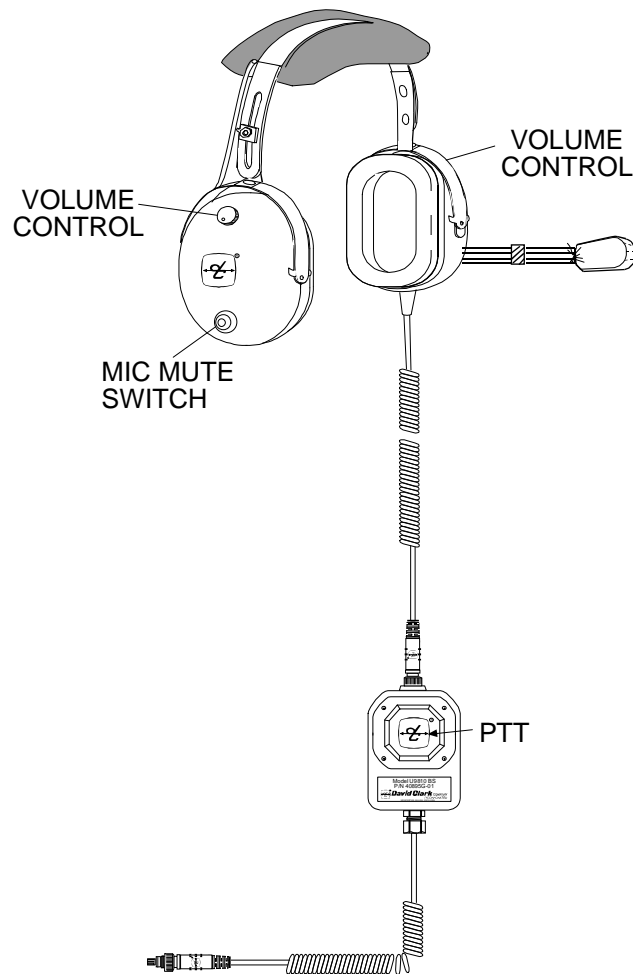

Figure 18: Headset with Body PTT Switch
- ☐ See **Figure 18 & Table 3** which show how to connect an isolation transformer between the radio and the C98-20AX cable. Stereo installations require two transformers.
- ☐ The installer will fabricate the circuit in **Figure 18**, mount it in an appropriate enclosure, and interface it with the radio and the C98-20AX cable.